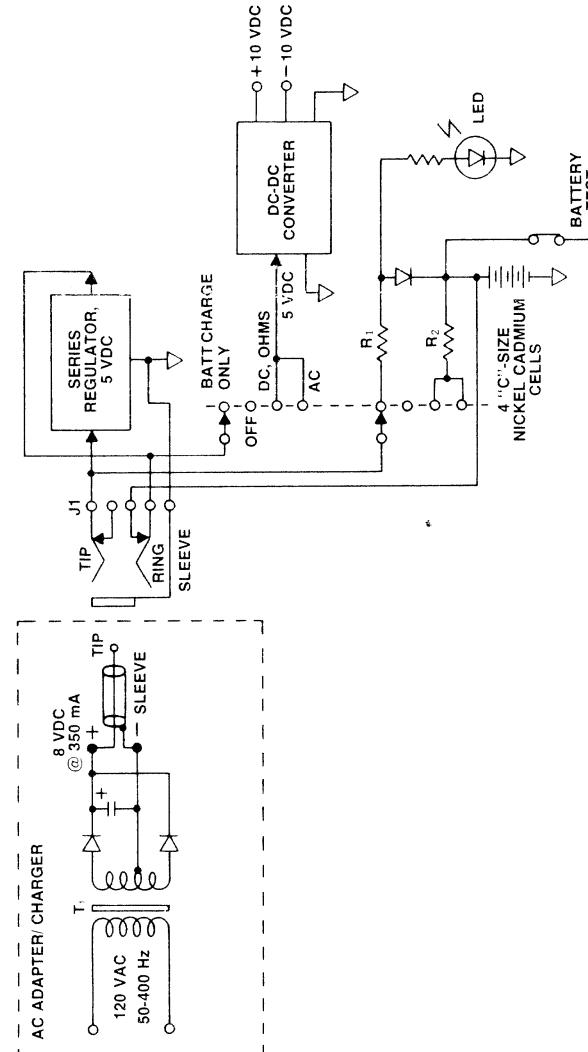

Figure 5-6. Simpson 360-2 Power Supply, Schematic
5.4.1 The basic block diagram for the 360-2 AC Adapter/Charger and power supply circuits is shown in Figure 5-6.